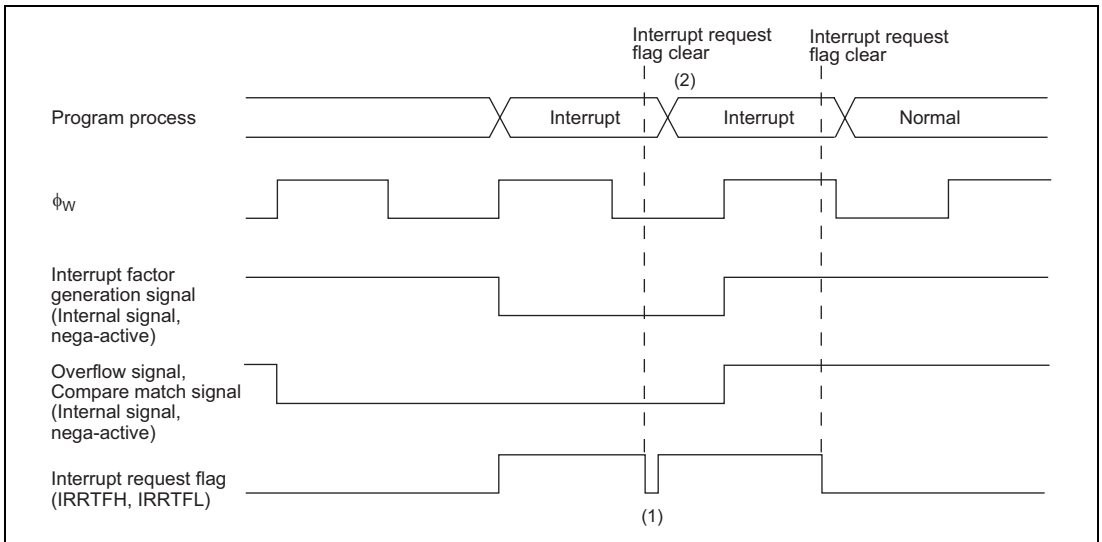

Figure 9.7 Clear Interrupt Request Flag when Interrupt Factor Generation Signal is Valid
When $\phi_w/4$ is selected as the internal clock, “Interrupt factor generation signal” will be operated with ϕ_w and the signal will be outputted with ϕ_w width. And, “Overflow signal” and “Compare match signal” are controlled with 2 cycles of ϕ_w signals. Those signals are outputted with 2 cycles width of ϕ_w (figure 9.7)
In active (high-speed, medium-speed) mode, even if you cleared interrupt request flag during the term of validity of “Interrupt factor generation signal”, same interrupt request flag is set. (figure 9.7 (1)) And, you cannot be cleared timer overflow flag and compare match flag during the term of validity of “Overflow signal” and “Compare match signal”.
For interrupt request flag is set right after interrupt request is cleared, interrupt process to one time timer FH, timer FL interrupt might be repeated. (figure 9.7 (2)) Therefore, to definitely clear interrupt request flag in active (high-speed, medium-speed) mode, clear should be processed after the time that calculated with below (1) formula. And, to definitely clear timer overflow flag and compare match flag, clear should be processed after read timer control status register F (TCSRF) after the time that calculated with below (1) formula. For ST of (1) formula, please substitute the longest number of execution states in used instruction. (10 states of RTE instruction when MULXU, DIVXU instruction is not used, 14 states when MULXU, DIVXU instruction is used) In subactive mode, there are not limitation for interrupt request flag, timer overflow flag, and compare match flag clear.